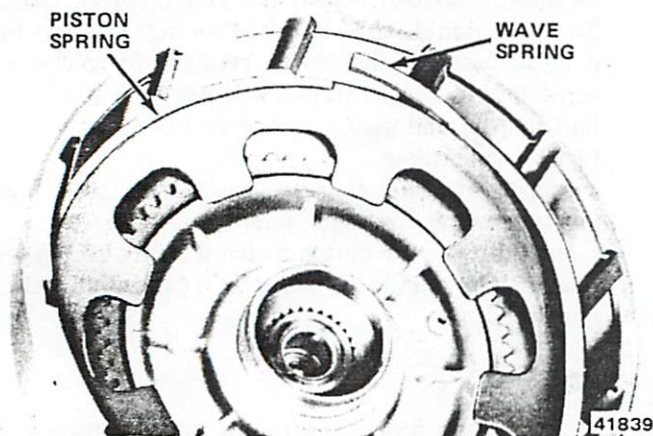

Fig. 2C-78 Piston Spring and Wave Spring Installation
(9) Measure rear clutch pack clearance. Press down firmly on outer pressure plate and insert feeler gauge between pressure plate and selective snap ring (fig. 2C-79).
(10) If necessary, adjust clearance using one of the following selective thickness outer snap rings. Snap rings are available in 0.060, 0.076 and 0.098-inch (1.52, 1.93 and 2.49 mm) thicknesses. Low limit clearance is desirable.